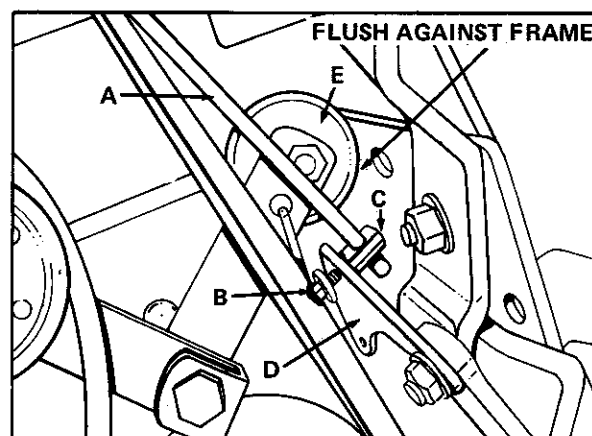

Figure 25. Reverse Control Rod Assembly
2. The setscrew with washer and the wire clamp (items B and C, figure 25) for the reverse control rod are preassembled on the right bellcrank (item D). Loosen the setscrew only enough to slip end of control rod (item A, figure 25) through the wire clamp. The control rod must be on the outside of its bellcrank.